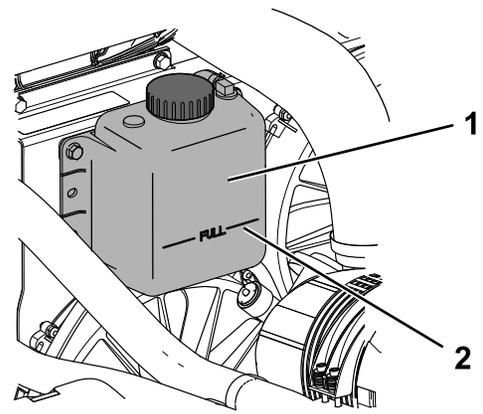

Figure 75
4. Check the coolant level in the expansion tank (Figure 75).